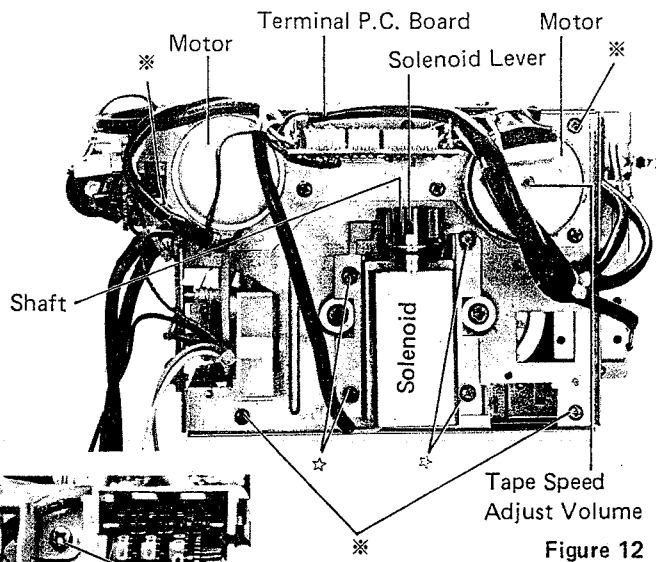

Figure 12
- (2) Remove four screws marked "☆" as shown in Figure 12 and remove head solenoid.
- (3) Remove shaft that is holding solenoid lever as shown in Figure 12.
- (4) Remove four screws marked "*" from the sub chassis as shown in Figure 12.
- (5) The sub chassis can be completely removed from the cassette deck chassis, and then remove the sub belt or motor belt.